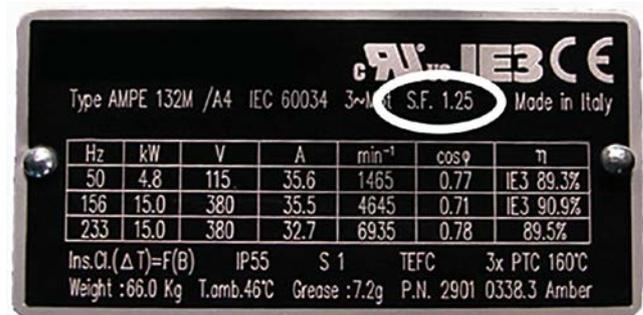

Figure 1: The name plate indicates a service factor of 1.25. Therefore, the rated power can be temporarily exceeded by up to 25 percent.
This also applies when the optimal range is exceeded, whereby more than 100 percent of the rated power is also possible. This is where the service factor (SF) comes into play. It is defined as a standard by the US American National Electrical Manufacturers Association in the NEMA MG1-2011 handbook. The service factor is specified on the name plate (Figure 1). It indicates the degree to which a motor can be loaded beyond the rated power. To calculate the permissible degree of overloading, the rated power is multiplied by the SF value. For example, if a rated power of 15.0 kW is indicated with a service factor of SF 1.25, the maximum permissible rated power is $15 \times 1.25 = 18.75$ kW. Therefore, it is 25 percent higher than it seems at first glance.